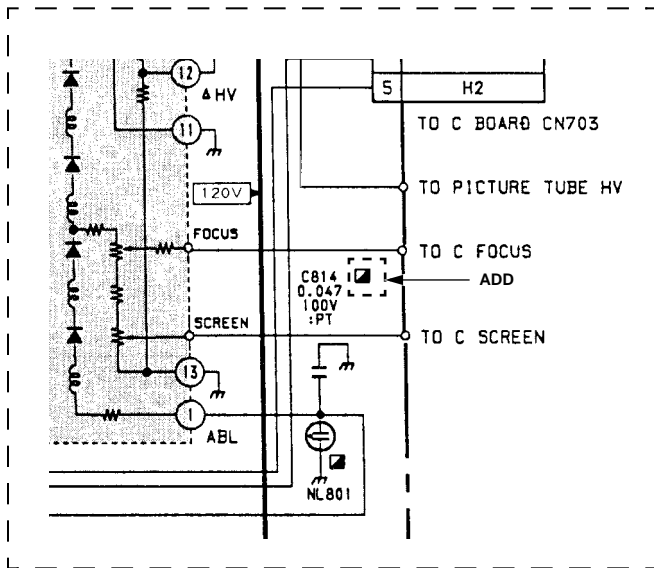

Figure 1
1. Correct the following service manuals as shown in Figure 1: